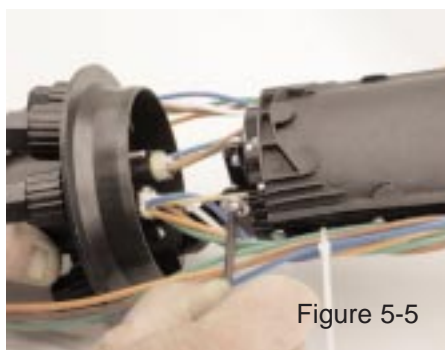

Figure 5-5
**5.05** Secure central strength member between serrated washer and central strength retention bracket. (Figure 5-5)